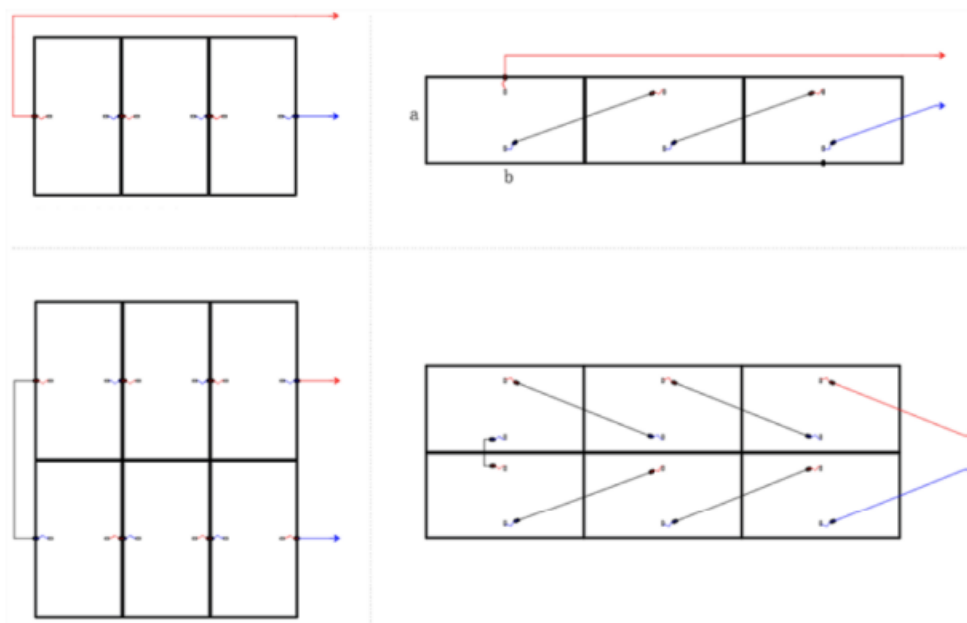

Figure. 7 Common arrangement of modules
- At present, the PV module arrangement is more common in single vertical rows, double vertical rows, single horizontal rows, and double horizontal rows, as shown in Figure 7: